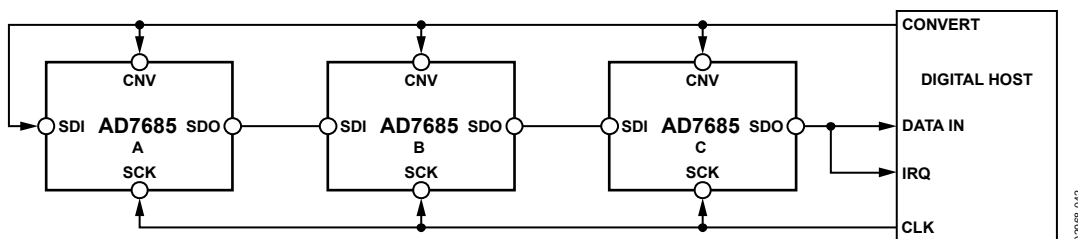
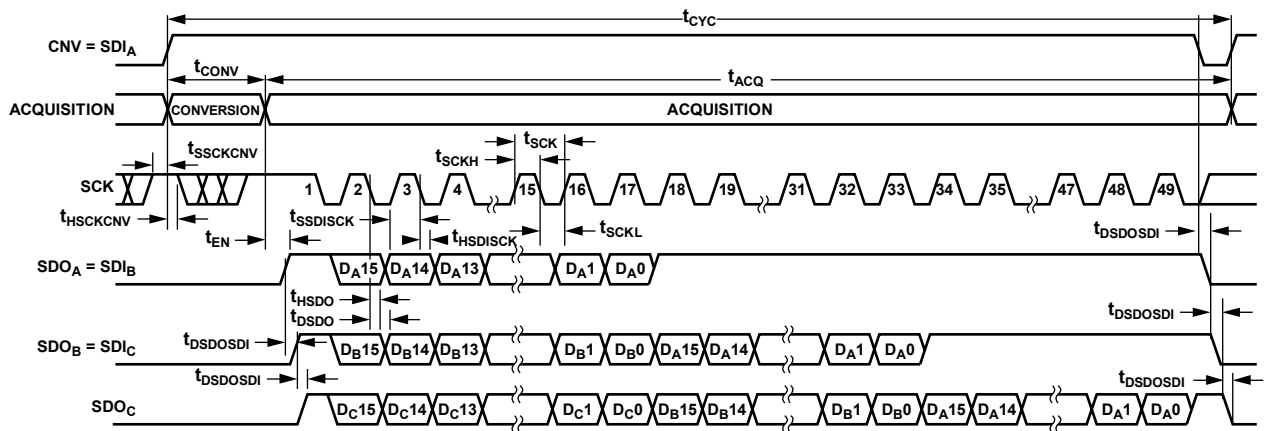

Figure 44. Chain Mode with BUSY Indicator Connection Diagram
Figure 45. Chain Mode with BUSY Indicator Serial Interface Timing
- In the chain mode, if SCK is high during the  $\overline{\text{CNV}}$  rising edge (see Figure 45).
A connection diagram example using three AD7685s is shown in Figure 44, and the corresponding timing is given in Figure 45.
Figure 44) SDO is driven high. This transition on SDO can be used as a BUSY indicator to trigger the data readback controlled by the digital host. The AD7685 then enters the acquisition phase and powers down. The data bits stored in the internal shift register are then clocked out, MSB first, by subsequent SCK falling edges. For each ADC, SDI feeds the input of the internal shift register and is clocked by the SCK falling edge. Each ADC in the chain outputs its data MSB first, and  $16 \times N + 1$  clocks are required to readback the N ADCs. Although the rising edge can be used to capture the data, a digital host also using the SCK falling edge allows a faster reading rate and, consequently, more AD7685s in the chain, provided the digital host has an acceptable hold time. For instance, with a 5 ns digital host setup time and 3 V interface, up to eight AD7685s running at a conversion rate of 220 kSPS can be daisy-chained to a single 3-wire port.